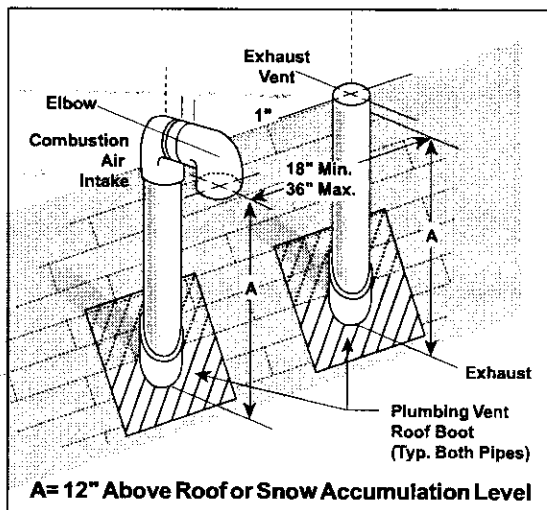

Figure 19. Vertical Vent Termination
Figure 19 shows the proper installation and clearances for vertical vent termination. The
roof penetration must be properly flashed and waterproofed with a plumbing roof boot or equivalent flashing. Termination spacing requirements from the roof and from each other must be per Figure 19.
- The termination clearances shown in Figure 19 are maintained.